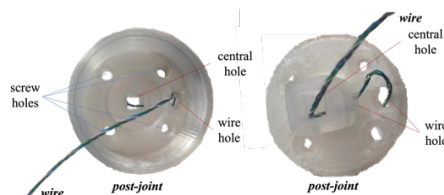

Fig. D-1. The *post-joint* (with wire) viewed from below (left) and above (right)
2. Place one or more steel balls into the groove of the *limiter* base to restrict the angle range of the joint. Then, insert the pivot of the *encoder* into the *limiter*. After this step, you can try rotating the *limiter* to confirm that it is working correctly and can be rotated smoothly. If it is not working correctly, the reason may be (1) the steel balls not being placed in the groove, or (2) the pivot of the *encoder* not being inserted deep enough into the *limiter*. If the *limiter* cannot be rotated smoothly, you can add an appropriate amount of lubricant to the groove in the *limiter* base.
5. Adjust the *limiter*, *damping pivot*, and the wire within them to the appropriate positions, ensuring that the wire does not get stuck due to the insufficient length when rotating the *limiter* pivot within the pre-defined range. Thread the wire that came out of the *damping pivot* through the two wire holes of the *post-joint*, and then come out of the central hole of the *post-joint*, as illustrated in Fig. D-1.